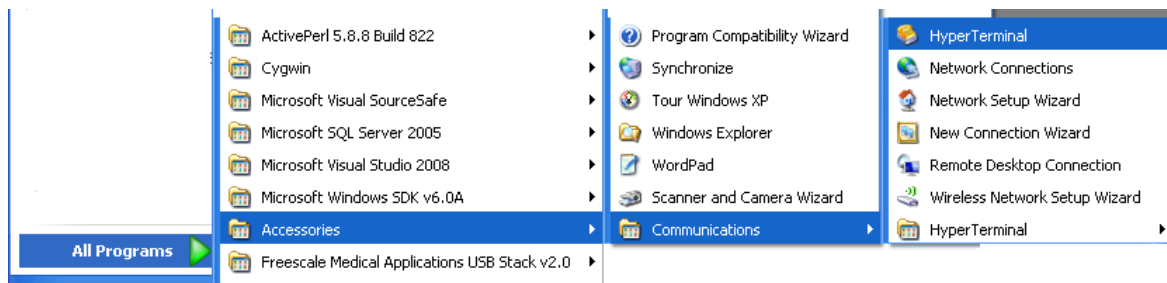

Figure 5-6 Launch HyperTerminal Application
1. Open HyperTerminal applications as shown in **Figure 5-6**